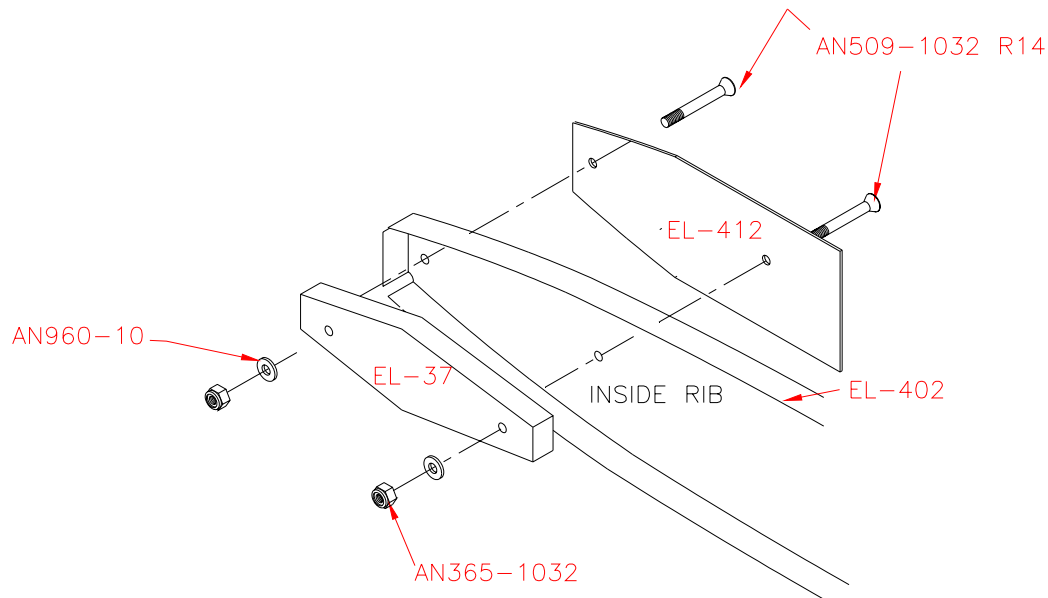

Figure 3.8.2
6) Mount the Elevator Tip Weight to the inboard Tip Rib as in Figure 3.8.2.